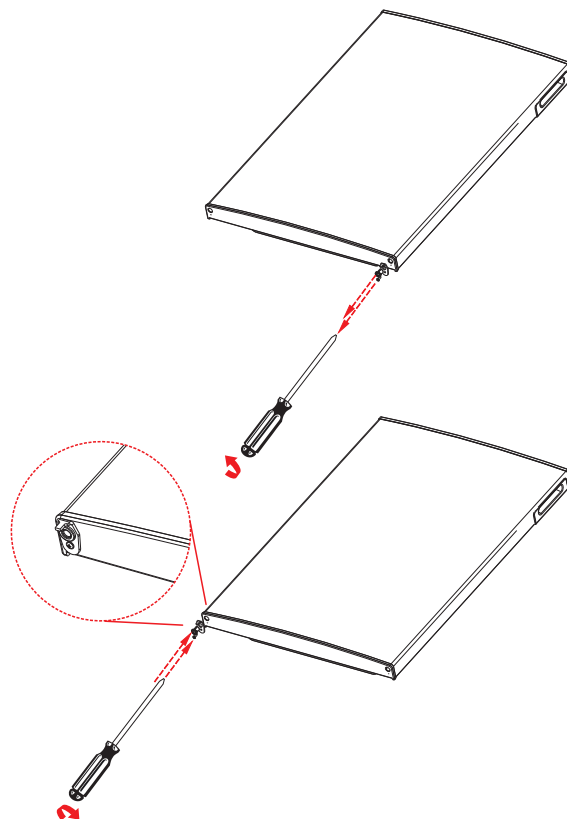

Fig. 15
- ▶ Loosen the retaining screw on the lower door stop limiter. Reposition the door stop limiter on the left-hand side as well and screw the door stop limiter tight with the retaining screw (Fig. 15).